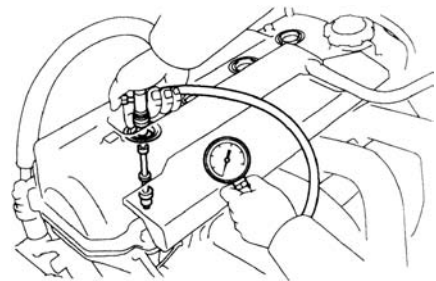

Figure 4
9. Check compression pressure See (Figure 4)